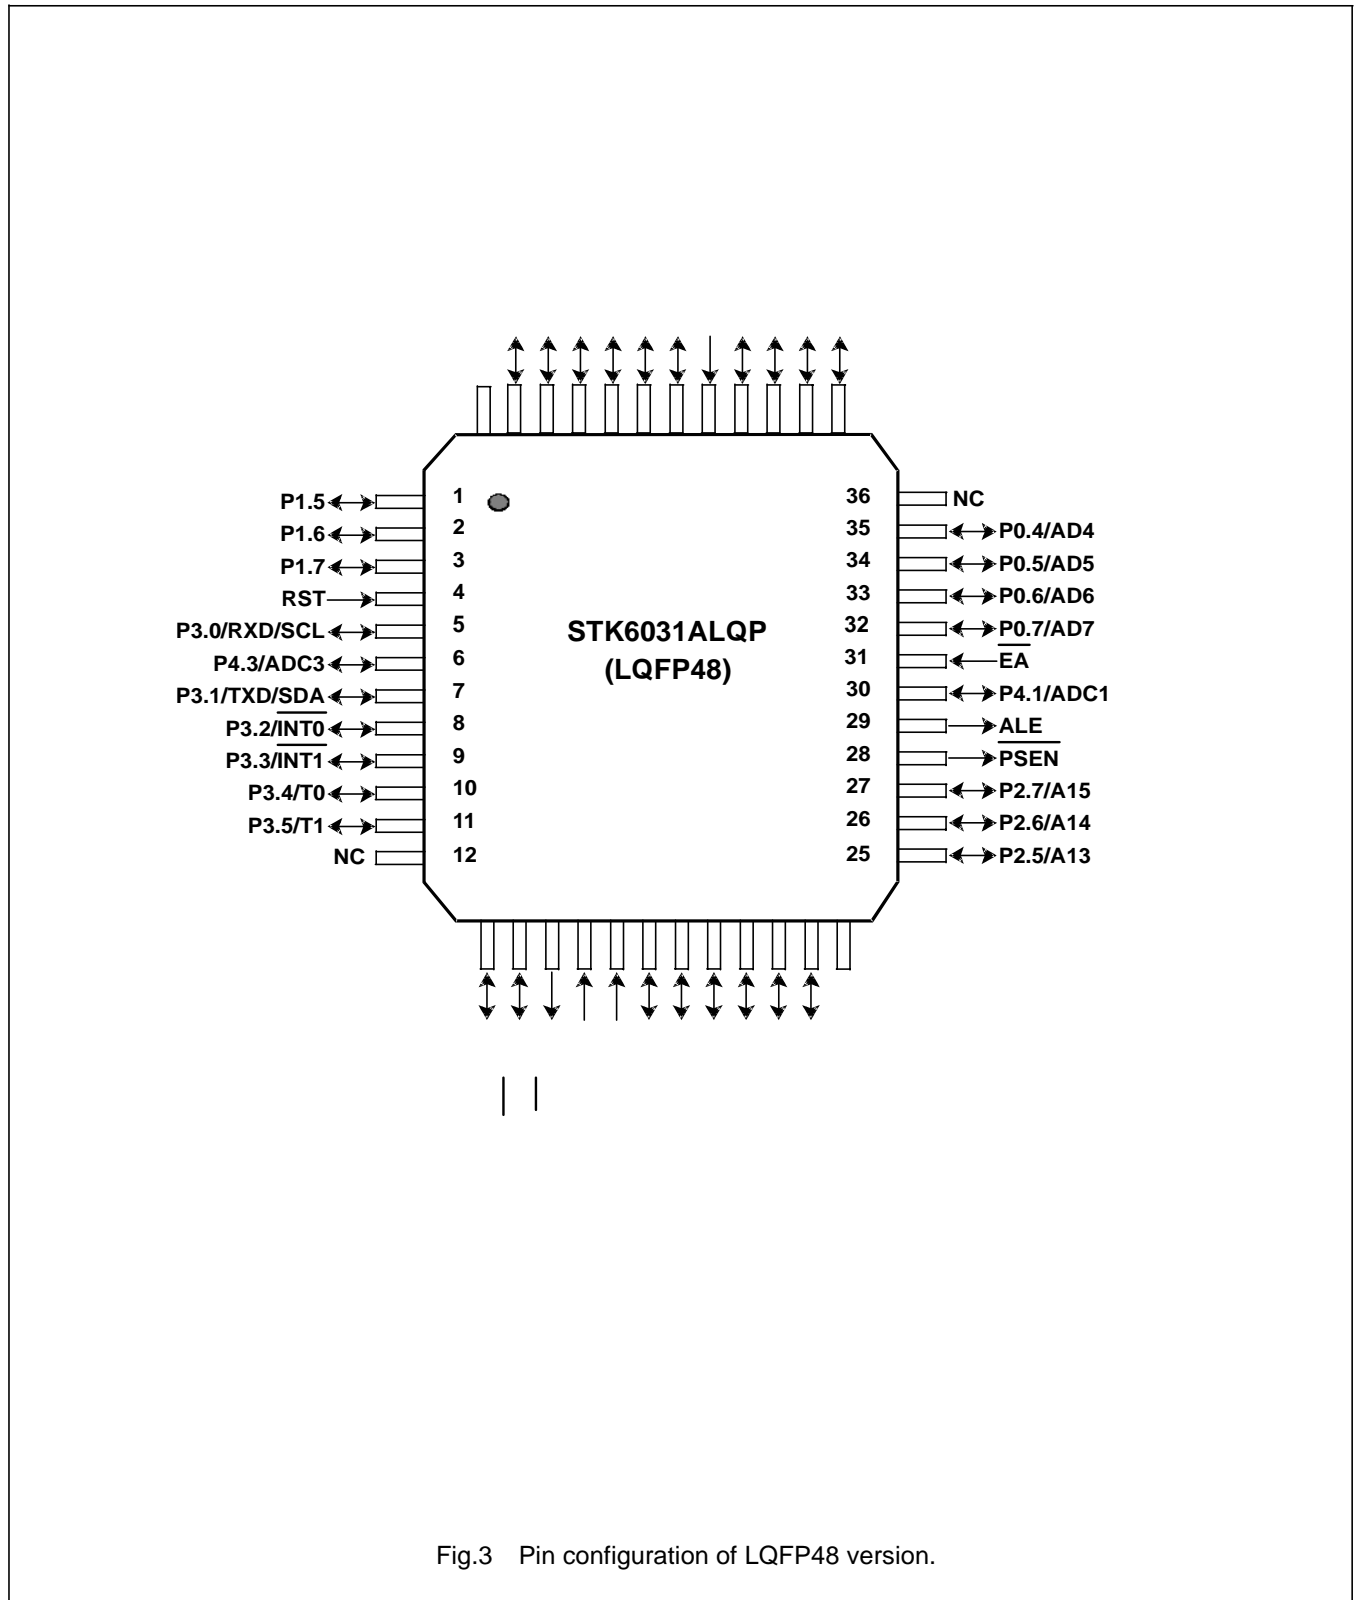

Fig.3 Pin configuration of LQFP48 version.
- Figure 3** Pin configuration of LQFP48 version. ...Page 7